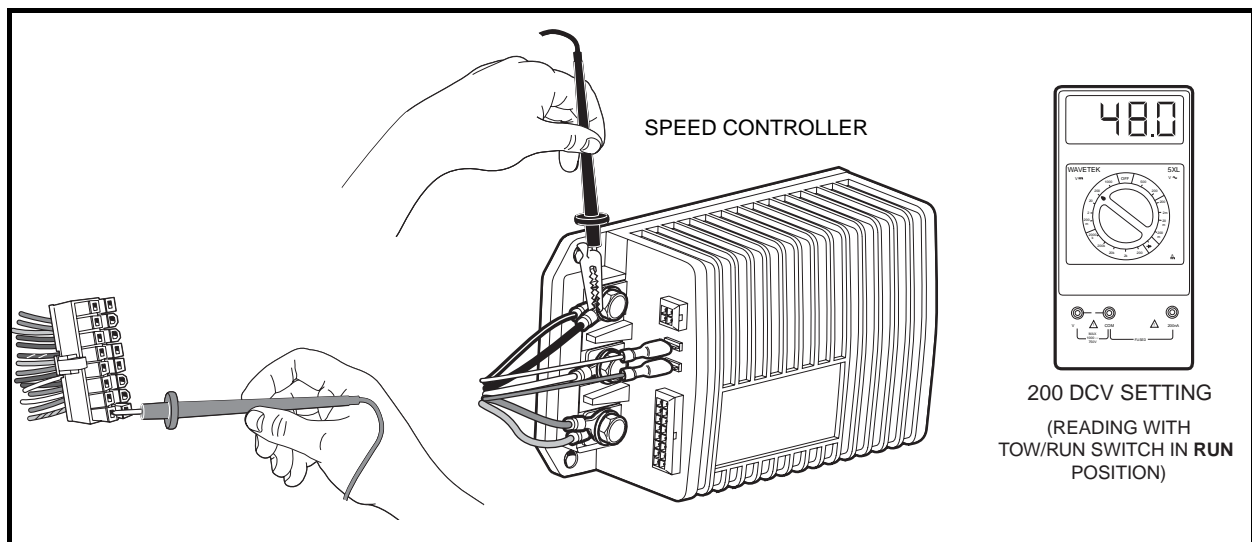

Figure 11-18 Pin 9 Test
4. Using a multimeter set for 200 volts DC, insert the red (+) probe of the multimeter into pin 9 (gray wire) of the 16-pin connector. **See following CAUTION.** Using an alligator clip, connect the black (-) probe to the B- terminal of the speed controller (**Figure 11-18, Page 11-32**).